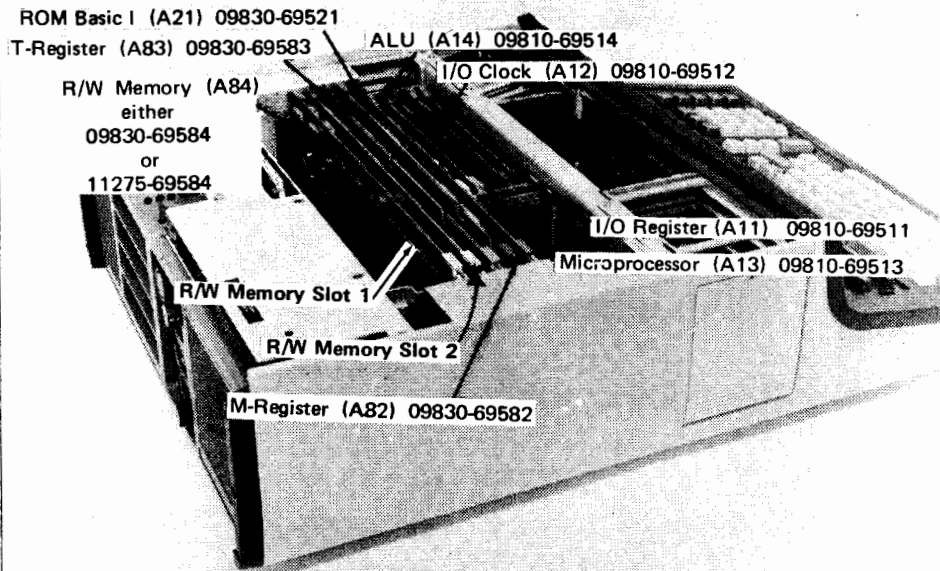

Figure 6-3. The Processor and Memory Assemblies.
6. Install the new M-register (09830-69582), T-register (09830-69583), and either a 2K (09830-69584) or 4K (11275-69584) memory in PC slot 1 (see figure 6-3). If the original R/W memory was 1760 words, use the 2K assembly. If the original memory was 3808 words, use the 4K assembly. DO NOT attempt to use two 2K boards to obtain a 4K memory, as only the assembly in R/W memory slot 1 will be recognized. If 4K (11275-69584) and 2K (09830-69584) R/W memory assemblies happen to be installed in the same calculator, the 4K assembly must be in slot 1 to provide more than 1760 words of memory.